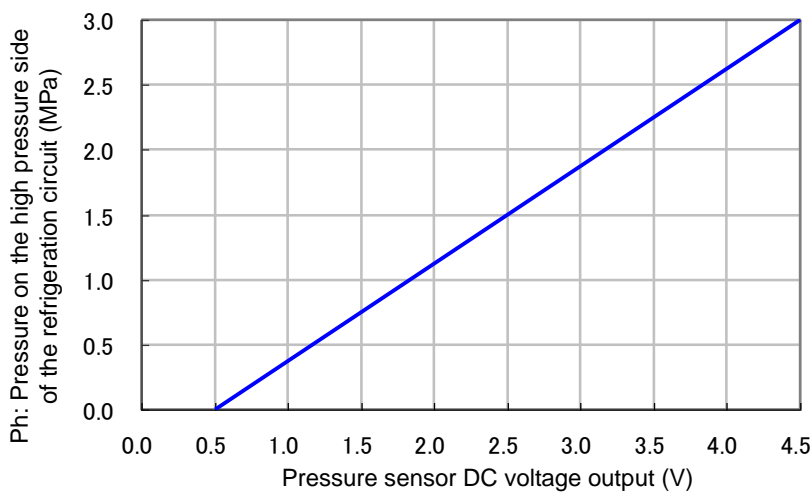

Fig. 3.3-10 Refrigerant circuit pressure sensor (for high pressure) analogue output
- (1) Check the "Ph: Refrigerant circuit pressure on the high pressure side" value in the "Check Monitor Menu".
- (2) Check voltage by contacting the probe of the tester directly to the connector external surface with the "CN4" connector of the main board being inserted.
- (3) Contact the positive probe to the pin number 11 and contact the negative probe to the pin number 10 of the "CN4" connector.
- (4) Check that the voltage between the pin number 11 and the pin number 10 is in the same relationship shown in Fig. 3.3-10. (Accuracy: +/- 5%)
- (5) If the voltage is in the same relationship as the graph shows, it means that the main board is operating correctly.